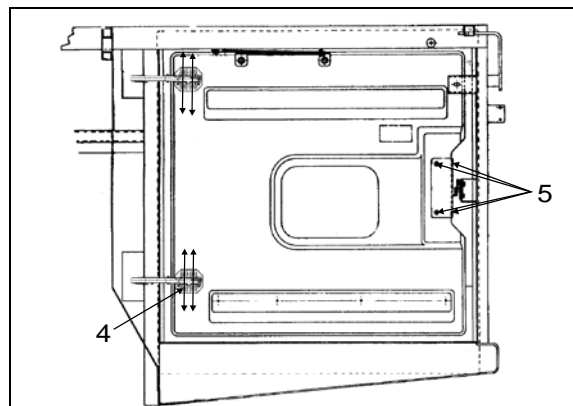

FIGURE 74: PORTE DU COMPARTIMENT MOTEUR18633_1
8. Desserrer les vis (4, Figure 74).